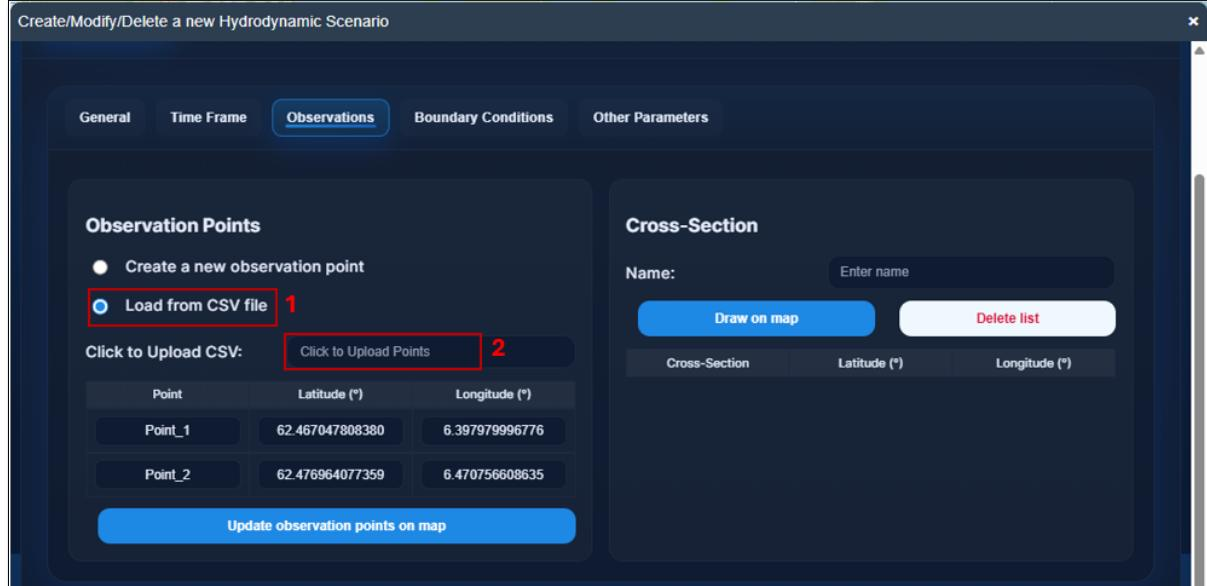

Figure 2.9. Upload observations from a CSV file
- *Step 1:* Active radio “**Load from CSV file**” button to display an area to upload a file (**Figure 2.9**). If the user has already added observation points, these points will be kept in the list. The user can add other points from a CSV file independently.